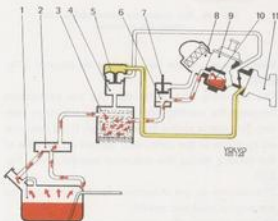

Fig. 2-84. Gas evaporative control system with control rod (7) at idle
When the throttle is opened, the suction chamber obtains about the same vacuum as in the engine intake manifold. Owing to the pressure difference between the bottom side of the air valve, where there is pressure at the inlet port of the carburetor, and the top side of the valve, where there is vacuum, the valve lifts from the bridge and also causes the tapered needle (7, Fig. 2-84) secured at the valve to lift from the jet. The effective choke area widens and increases the fuel flow. Since the vacuum in the engine induction manifold is dependent upon the engine speed and load, correct fuel flow is obtained for all operating conditions. Because of the variable choke area between the bridge and the valve, the air velocity and pressure drop across the jet will always remain approximately constant, thus ensuring good fuel atomization at all speeds.
To provide at any point in the throttle range a temporarily richer mixture at the moment the throttle is suddenly opened, acceleration, a hydraulic damper is incorporated in the valve rod. The hydraulic damper consists of a damper plunger (3, Fig. 2-84) mounted on a rod. The plunger operates in oil. When the throttle is suddenly opened, the vacuum in the suction chamber increases rapidly. When the air valve (8) lifts, the damper plunger is